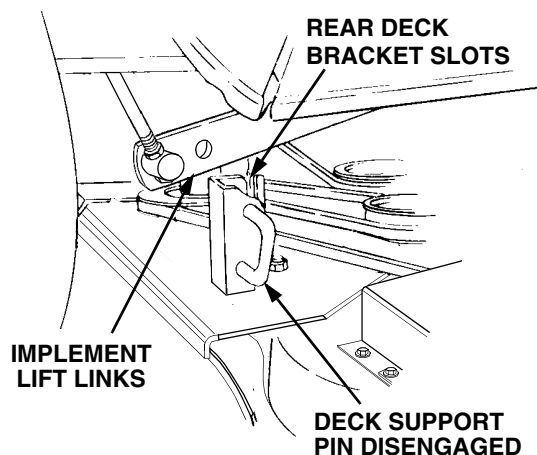

Figure 32
7. If not already done, pull the deck support pins outward, turn downward and release so both spring-loaded pins are held in the disengaged position against the outer surface of the deck brackets (See Figure 32).